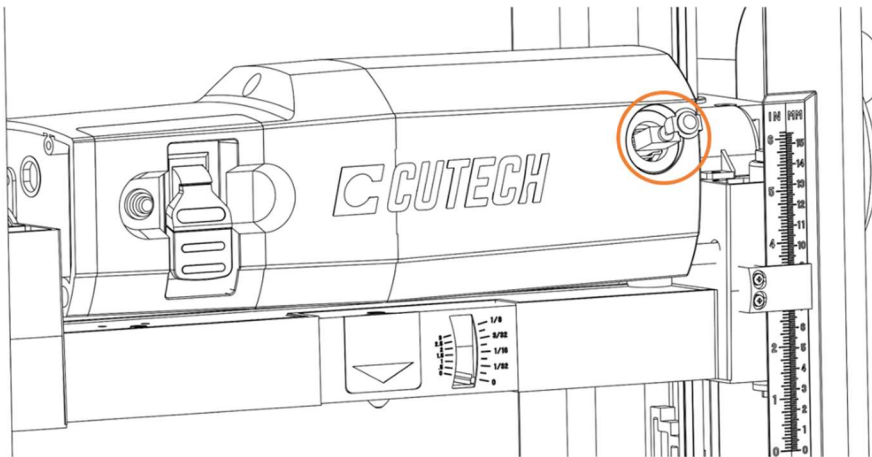

FIG 14
2. Once the brush has been removed, inspect the carbon, the spring, and the wire. SEE FIG 14.